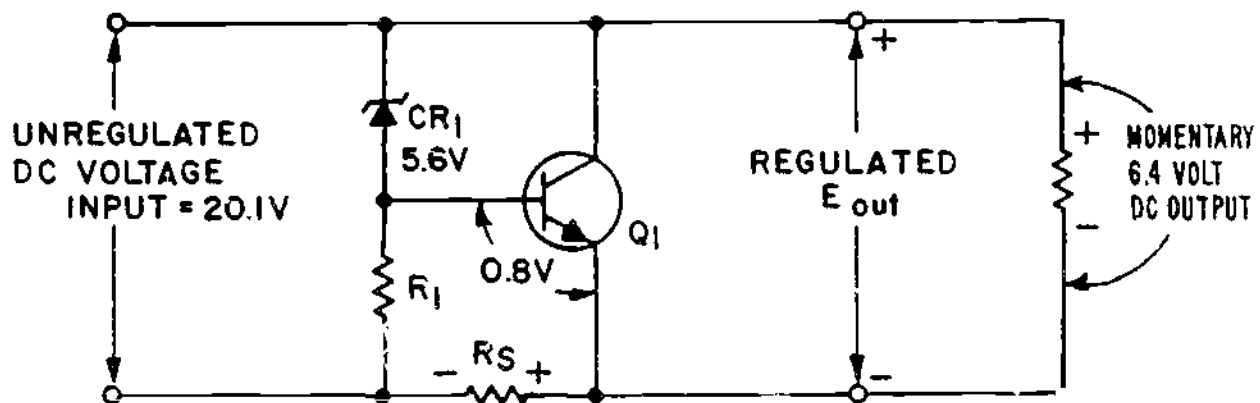

FIGURE 13
21. Refer to Figure 13. This figure shows the schematic diagram of the same shunt voltage regulator with an increased input voltage of 20.1 volts.
When there is an increase in the input voltage of the shunt voltage regulator shown in Figure 13 the forward bias of Q1 increases/decreases.